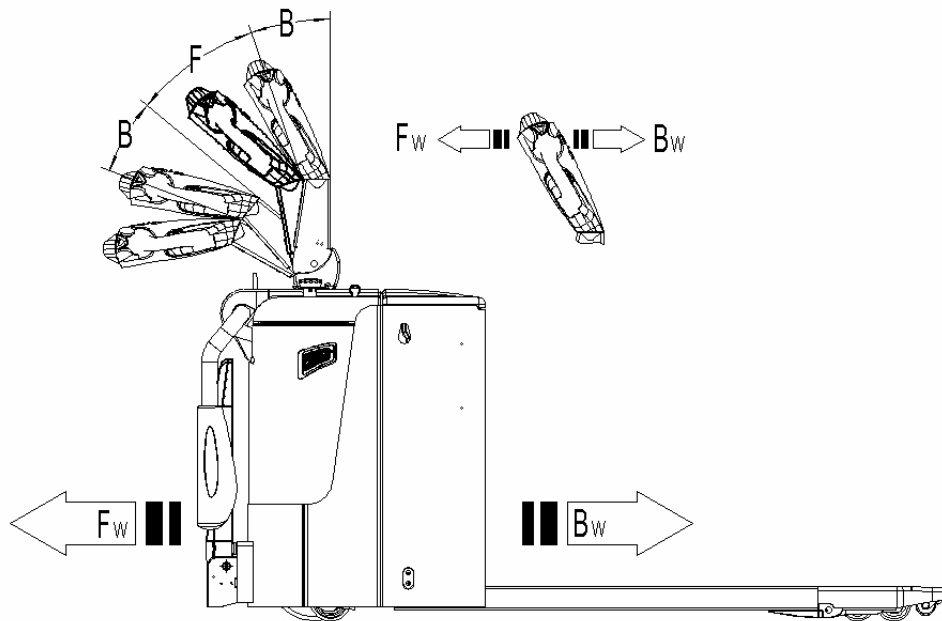

Fig. 9: Operating direction
After starting the truck by turning on the key switch (10), move the tiller to the operating zone ('F', fig.9). Turn the accelerator button to the desired direction forward 'Fw.' or backwards 'Bw.'(fig. 9).